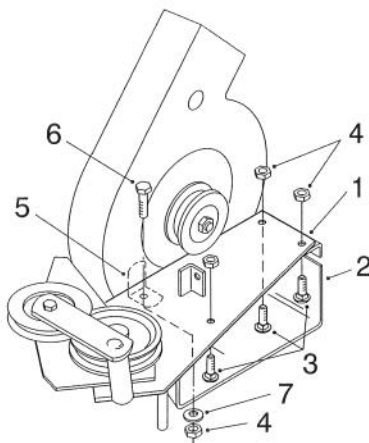

Figure 3
1. Install the blower mounting plate assembly to the blower housing using three $\frac{5}{16}$ " x $\frac{3}{4}$ " carriage bolts and $\frac{5}{16}$ " hex-head flange nuts (Fig. 3).
2. Install the L-Shaped support bracket inside the blower housing using a $\frac{5}{16}$ " x 1" hex-head bolt, $\frac{5}{16}$ " flat washer and $\frac{5}{16}$ " hex-head flange nut (Fig 3). Do not tighten the flange nut.
3. Pull the L-shaped support bracket up tightly against the inside wall of the blower housing and tighten the flange nut (Fig. 3).